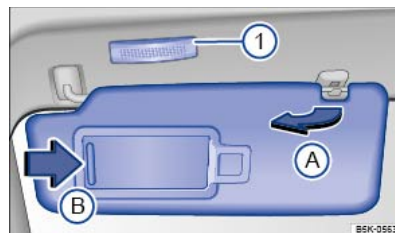

Fig. 107 In the front headliner: sun visor.
- Pulled out of the bracket and swung over towards the door ⇒ Fig. 107 ☺.
There is a vanity mirror behind a cover on the inside of the sun visor. When you open the cover ⇒ Fig. 107 ☺, a lamp ⇒ Fig. 107 ① lights up.